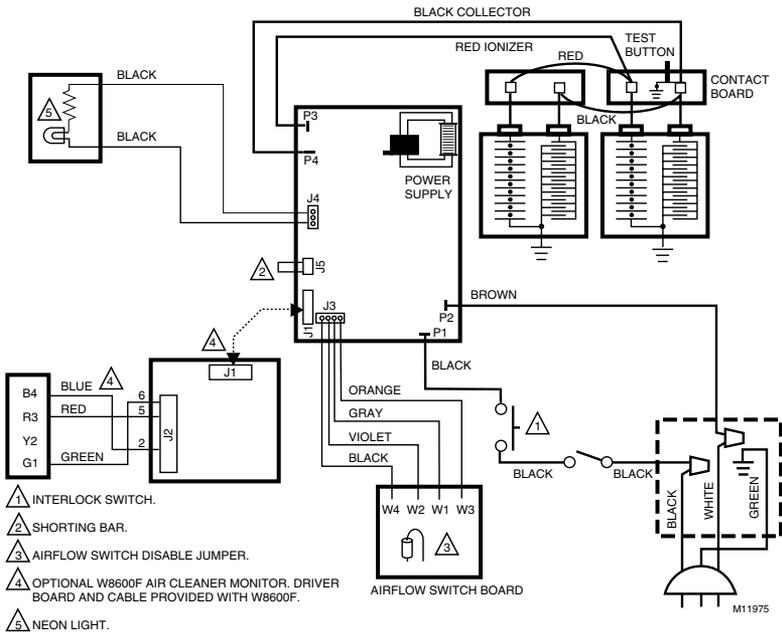

Fig. 9. Internal schematic for F50F with W8600F.
- Plug the F50F directly into the correct voltage and frequency outlet. See Fig. 9 through 12 for internal schematic. The F50F will operate properly at any fan speed on a multispeed or modulated speed system wired with conduit or plugged in.